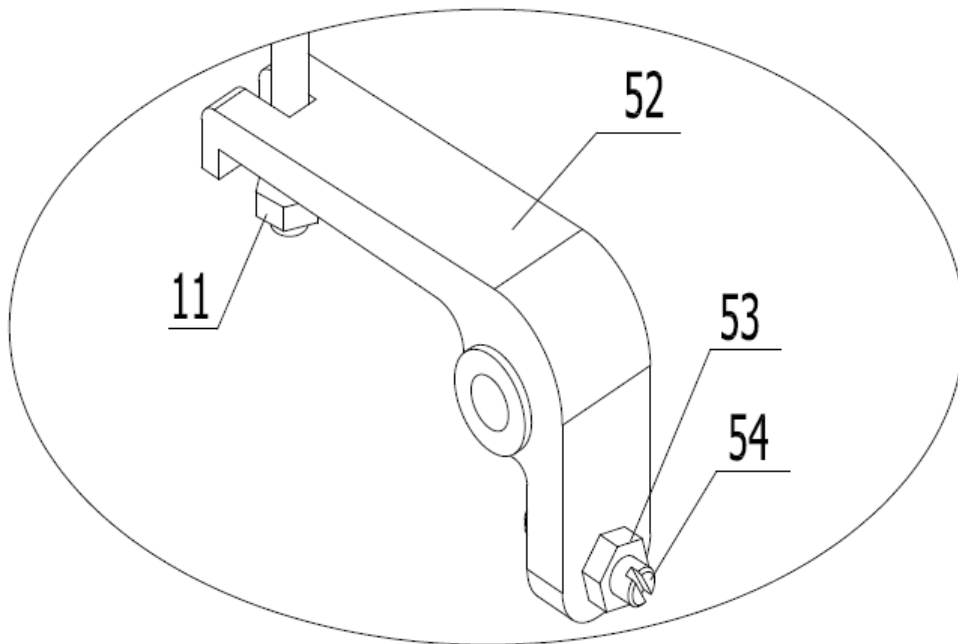

Figure 4
2. The screw(53), shown in figure 4, is used to adjust the truck lift setting. If the truck drops the load, immediately after it is lifted, you should turn the screw counter-clockwise. Vice versa, if the truck could not return to the ground position after it's lifted, you should turn the screw clockwise. Once the proper tension adjustment is made, the pallet jack truck is ready to be used.